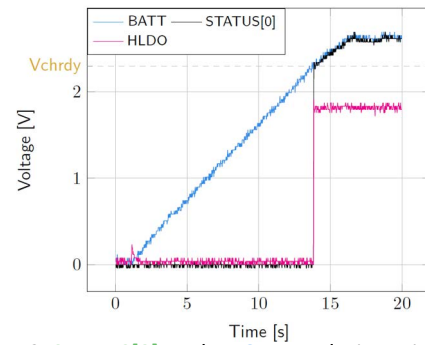

Figure 3: `STATUS[0]` and `HVOUT` evolution with `BATT`
- `BATT`: Voltage rises as the power provided by the source is transferred to the storage element (see Figure 3).
- `HVOUT/LVOUT`: Regulated when voltage on `BATT` first rises above  $V_{CHRDY}$  (see Figure 3).
- `STATUS[0]`: Asserted when the LDOs are ready to be enabled (refer to the AEM00941 datasheet “Normal Mode” section) (see Figure 3).